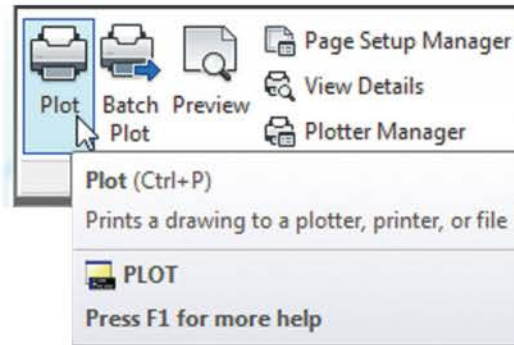

Fig. 16.34 The Plot icon in the Output/Plot panel
1. With a drawing to be printed or plotted on screen, *click* the **Plot** tool icon in the **Output/Plot** panel (Fig. 16.34).